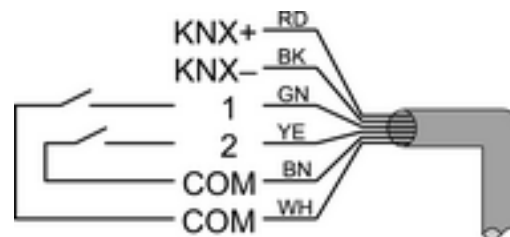

Figure 2: Connection assignment of control cable
- If necessary, connect potential-free contacts to the inputs (Figure 2).